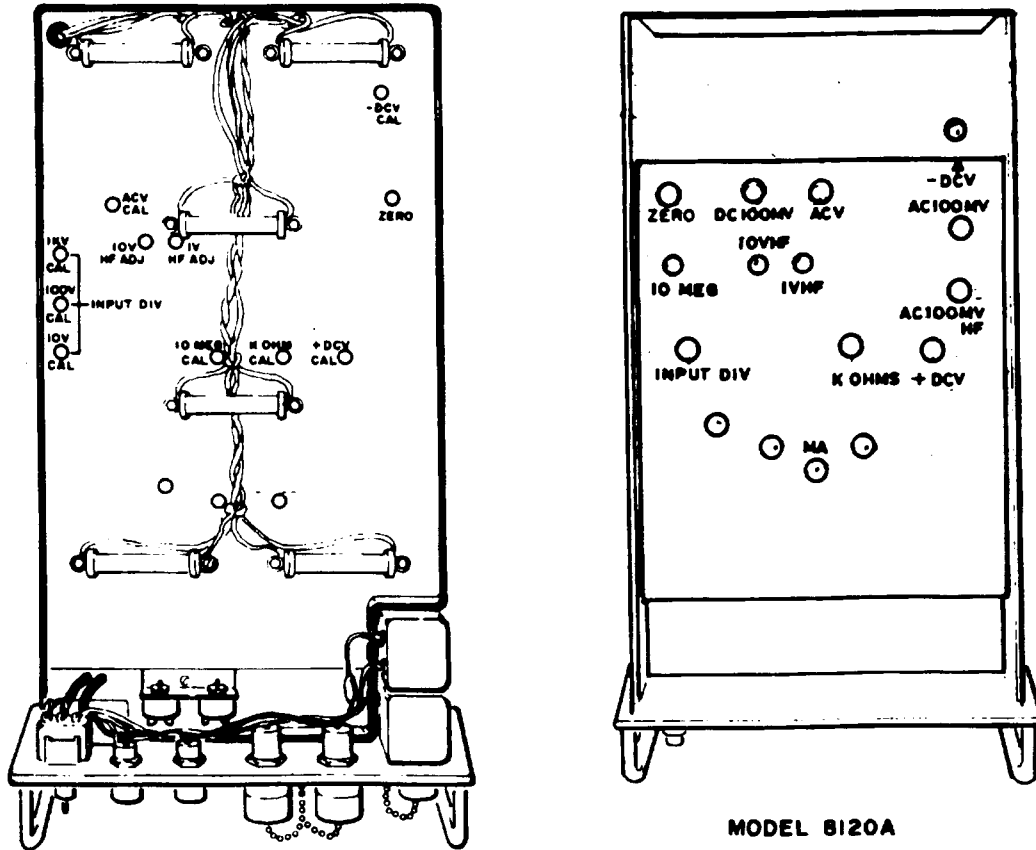

Figure 1. Test instrument - bottom view.
e. Short **INPUT HI** and **LO** terminals. If TI does not indicate between +.0001 (+00.01) and -.0001 (-00.01) adjust **ZERO** (fig. 1) (for model 8120A, adjust **DC ZERO** (front panel) control to center range, and adjust **ZERO** (fig. 1) until TI indicates .0000 (00.00).